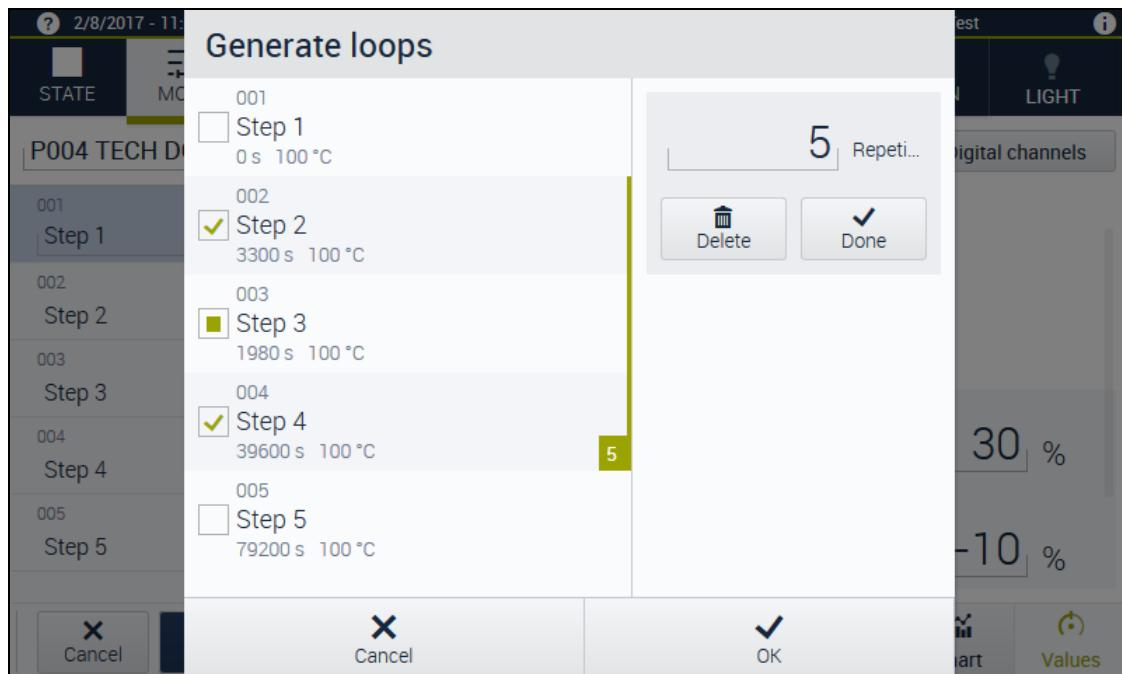

Fig. 6-2 Generate loops
- ✓ The **Generate loops** dialog opens → *Fig. 6-2 »Generate loops«* (page 78).